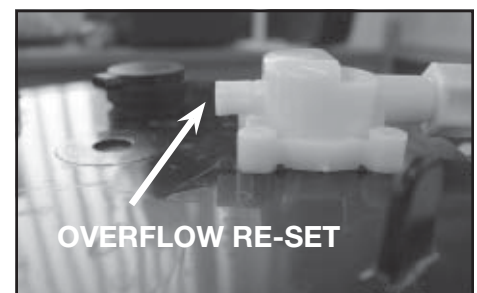

Fig. 21
7. Push the white re-set button located on top of the reservoir cover (See Fig. 21). A small burst of water will release from the re-set button depressurizing the water line. This action will cause flotation device “B” to release. The re-set procedure is now complete. Clean-up any access water on the reservoir cover. Re-connect the power cord.